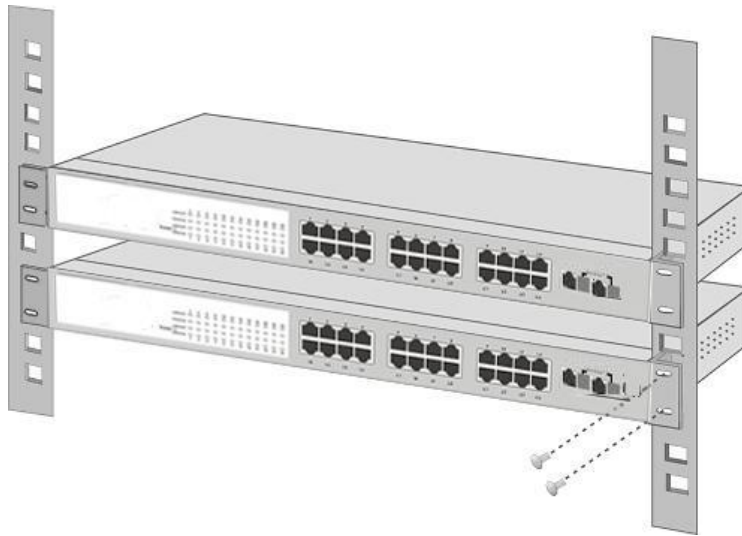

Figure 2-7 Mounting the Web Smart Switch in a Rack
Step 5: After the brackets are attached to the Web Smart Switch, use suitable screws to securely attach the brackets to the rack, as shown in Figure 2-7.